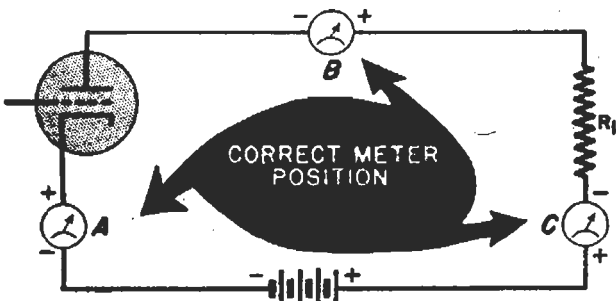
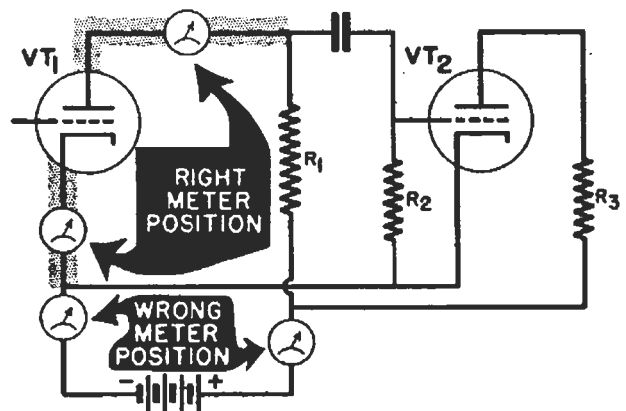

FIG. 8. Be sure to place a current meter in series and use the proper polarity.
FIG. 9. The right meter position is important.
**2. Correct Point.** In the simple circuit shown in Fig. 8, the meter may be placed anywhere in the circuit. The meter readings at *A*, *B* and *C* will be the same, because the same current flows through the entire circuit. However, when checking screen-grid or pentode tubes another problem arises. The screen-grid current also flows in the cathode lead in returning to the B supply. Hence, the plate current alone
When more than one tube is used, as shown in Fig. 9, notice there are now two paths for current, one for each tube. If you want to measure the plate current for tube  $VT_1$  only, be careful to locate a point where *only* the plate current of this tube is flowing. The cathode lead of tube  $VT_2$  may connect
directly to the cathode of  $VT_1$  and the  $B+$  ends of resistors  $R_1$  and  $R_3$  may be directly connected together, so positions such as *A* and *C* of Fig. 8 may not be usable. The shaded areas of Fig. 9 show the proper places to measure the plate current of  $VT_1$ . You must be sure to insert your meter where only the *desired* current is flowing. Otherwise, false readings will result. The meter may even be damaged if the sum of the currents exceeds the meter range you have chosen.
**3. Current Range.** The current range of the meter must be higher than the expected current; otherwise, the meter may be badly damaged or even ruined. The circuit current is determined by Ohm's Law,  $I = E/R$ , where  $R$  is the total of all the resistance in the circuit. In a circuit like Fig. 8, with a fixed supply voltage, the tube plate resistance plus resistor  $R_1$  determines the current flow. The current will be about 5 to 10 ma. if this is an ordinary amplifier tube. However, if the tube or resistor  $R_1$  is short-circuited in some
back to Fig. 8 where the correct meter polarity is indicated. When a tube is in the circuit, it acts as a signpost, showing the direction of electron flow through the entire circuit. Electrons, of course, flow only from the cathode of a tube to its plate and continue to flow in the same direction through the rest of the circuit. To make the meter needle read up-scale, the electrons must *enter the negative* meter terminal. Should the meter connections be reversed so the electrons enter the meter terminal marked +, the meter needle will read down-scale.